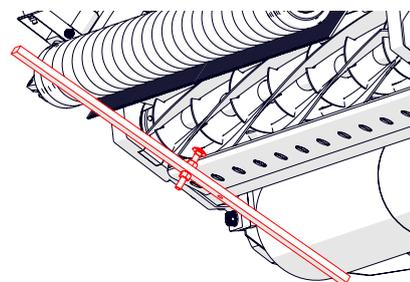

Fig. 6D - Repeat process on the other side
- Repeat step 6 for the second position on the other side of the cylinder (Fig. 6D).